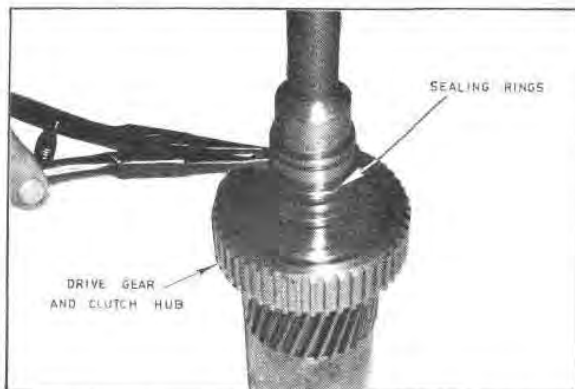

Fig. G32 — Removing the Forward Clutch Sealing Rings
17. Remove the two (2) forward clutch sealing rings on the drive gear (Figure G32), and examine them for wear. Check the journals, thrust face, and teeth of the drive gear for wear.